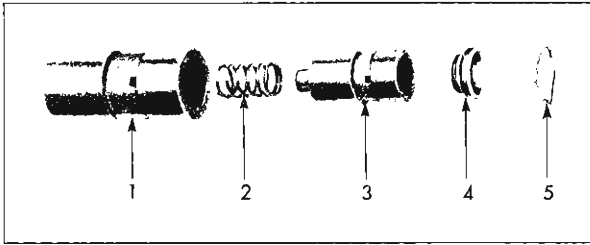

Fig. 9—Valve Lifter Components
2. Remove push rod seat, plunger and ball check valve assembly and plunger lifter spring. Figure 9 shows a layout of the parts.